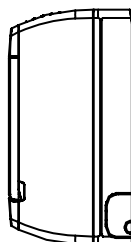
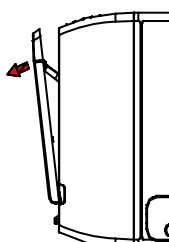
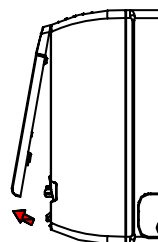

Fig. 5.2.1
Fig. 5.2.2
Fig. 5.2.3
1. Slide the decorated board and move it away as fig.5.2.1 shown; pull the front panel to the outside at a small angle as fig.5.2.2 shown; and then open the front panel as fig.5.2.3 shown.